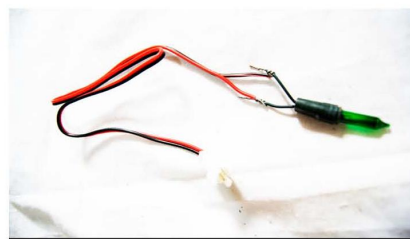

FIGURE 2.7
11. Wrap the wires from the alarm speaker that we had earlier cut off with the lamp light as seen in Figure 2.7.